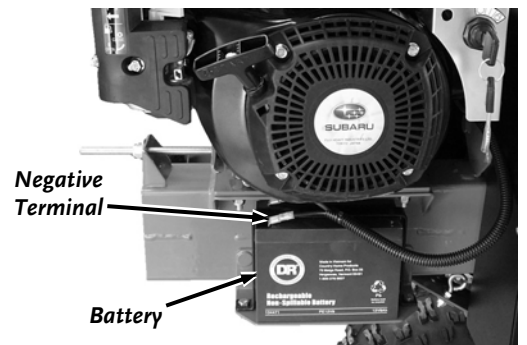

Figure 5
1. Connect the Black Negative Terminal onto the negative Battery Lug (**Figure 5**).